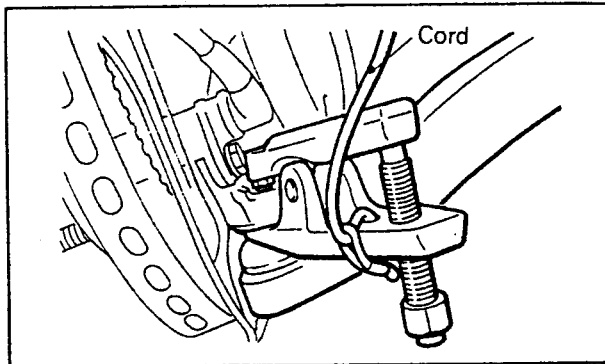

Fig. 10.6 — Separating the suspension ball joint from the steering knuckle with the special extractor. A similar tool can be used.
- Remove the suspension ball joint nut and separate the ball joint connection as shown in Fig. 10.6. Take care not to damage the rubber dust cap of the ball joint. To separate the ball joint, slacken the nut a few turns and then use the extractor as shown. An ordinary ball joint puller can also be used. Note the cord to secure the puller to the front suspension to prevent it from "flying off".